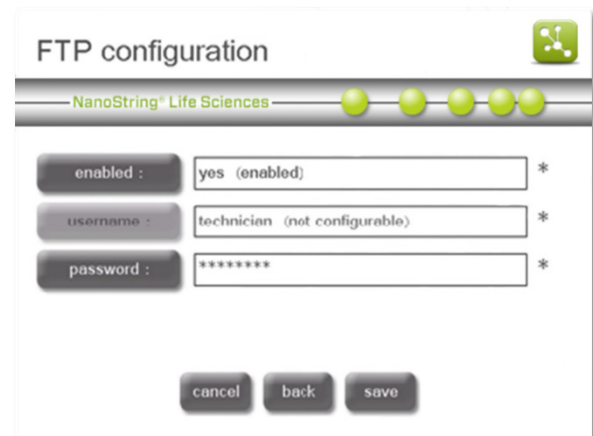

Figure 147: The 'FTP configuration' screen.
1. To configure FTPS access to the Digital Analyzer, select **FTP** on the 'System Setup' screen. The 'FTP configuration' screen will appear (Figure 147). The default FTPS user name is set to "technician." The user name cannot be changed.